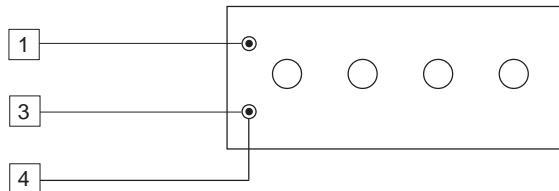

Fig. 5.6
- Connect a resistor box as shown in Fig. 5.6.
- Set the resistance box to 500.00  $\Omega$  (see Fig. 5.6).
- The display will show "25000  $\Omega$ "  $\pm 10$  counts otherwise set the resistance box to 500.00  $\Omega$  (see Fig. 5.6)